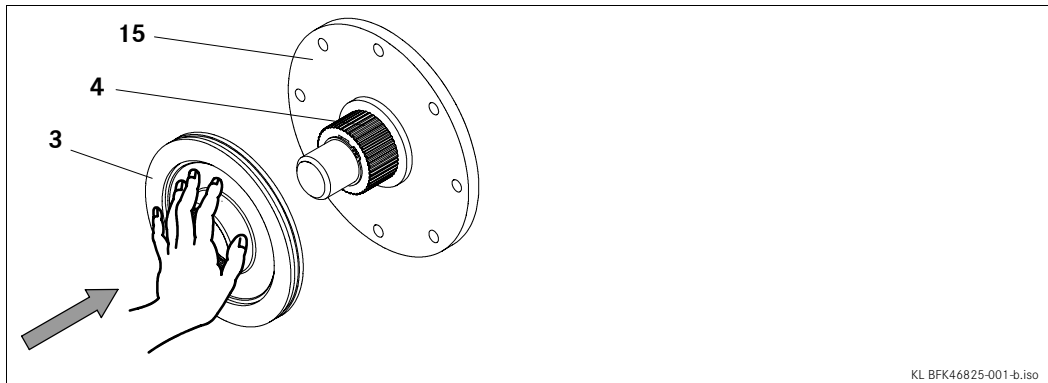

Fig. 6 Brake mounting
1. Push the rotor (3) onto the hub (4) and check whether it can be moved by hand (Fig. 6).